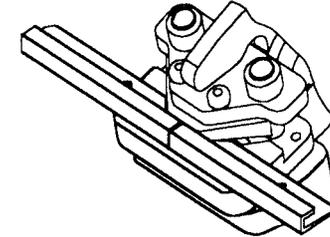

Figure 12
2. Place wall leg on flat die shoe, and make a cut at the mark (see figure 12).